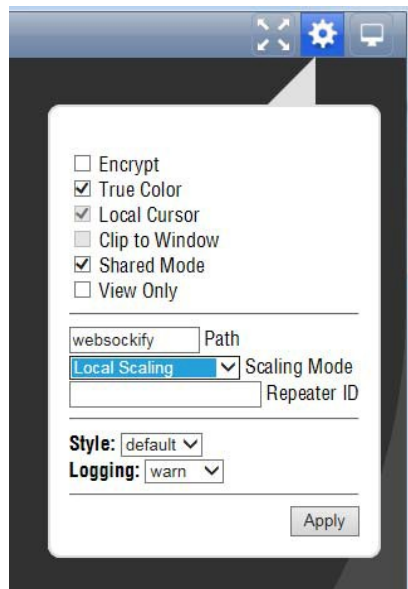

Figure 30: Settings dialog box with Local Scaling selected
3. In the Control bar, click the **Settings** icon () to open the Settings dialog box. (See Figure 30.)